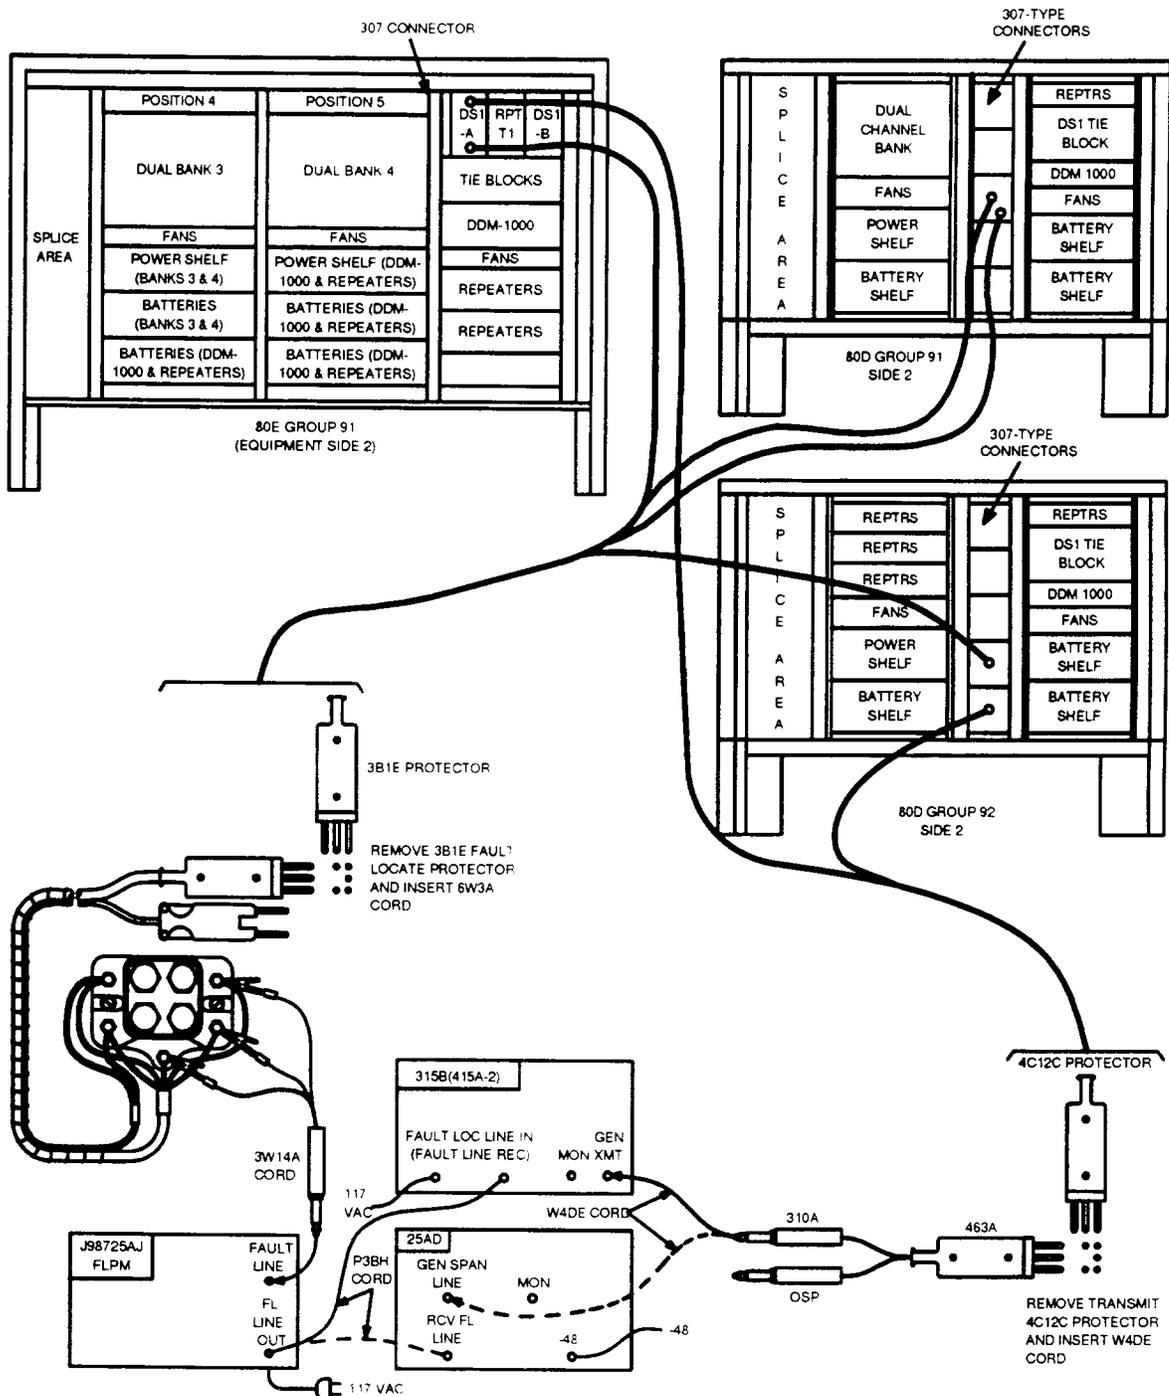

Figure 4 — Typical Fault-Locating Equipment Test Connections for DSX-1 Level Access
6. Make fault-locating test equipment connections to protector positions of 307 block on 80-type cabinet frame side 2 as shown in Figure 4. Refer to Table A, B, or C for protector appearances. Replace fault locate pair 3B1E protector with 6W3A test cord and connect 3W14A cord to FLPM. Remove transmit pair 4C12C protector and connect output of fault locate test set. Then continue with Step 11.